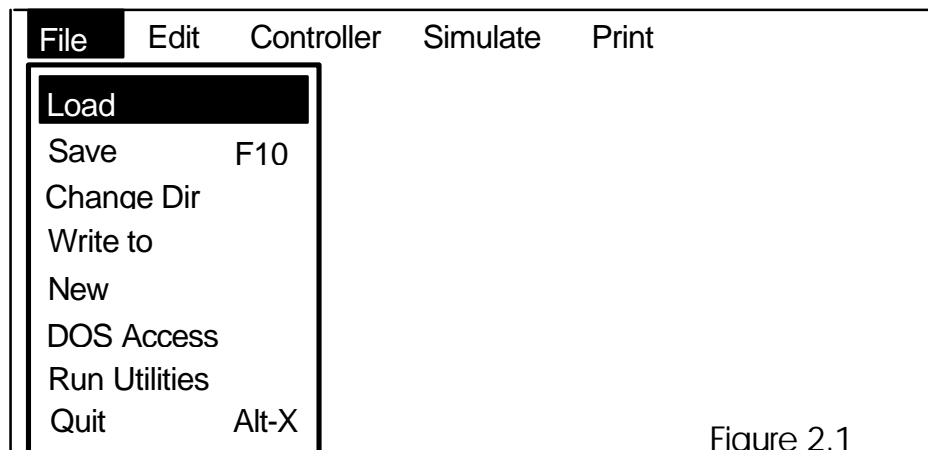

Figure 2.1
2. Let's load a demo file now for our tutorial purpose. Begin by selecting the pull-down "File" menu by pressing <F> key. Alternatively, use the cursor to move selection bar to the "File" command of the main menu and press <Enter> key. A pull-down menu should appear below "File" with the "Load" command highlighted (See Figure 2.1). Press <ESC> key to close the pull-down menu and <Enter> key to open it again. This is a standard way of opening and closing TRiLOGI's pull-down menus. Try it several times for familiarization.